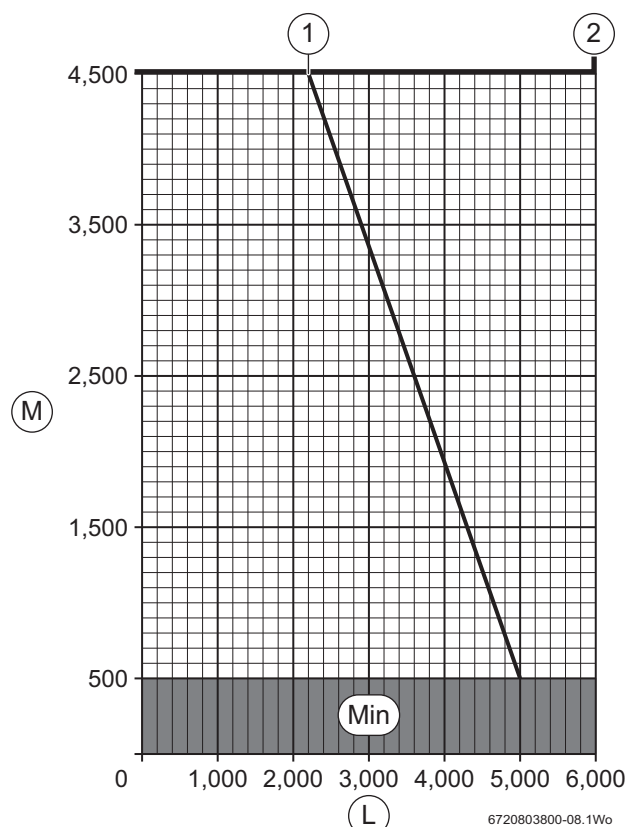

Fig. 21 Effective flue lengths versus plume management lengths
Refer to figure 21 to determine the appropriate plume length (M) versus the flue length (L).